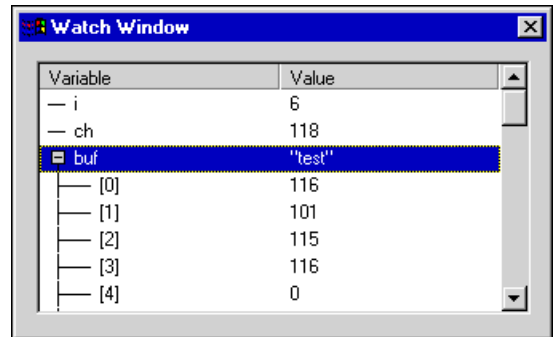

Figure 3-24 The Watch window
1. Select **Show Watch Window** from the **C++** menu or click on the **Show Watches** button in the toolbar. The Watch window displays a list of watched variables and expressions. Figure 3-24 on page 3-67 shows an example.